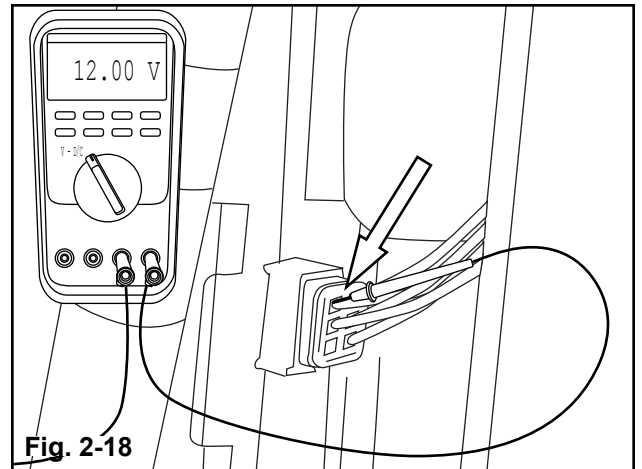

Fig. 2-18
- b) Using multi-meter, locate a wire exiting the reverse light connector that tests +12 Volts and is controlled by placing the vehicle in reverse. (Fig. 2-18)